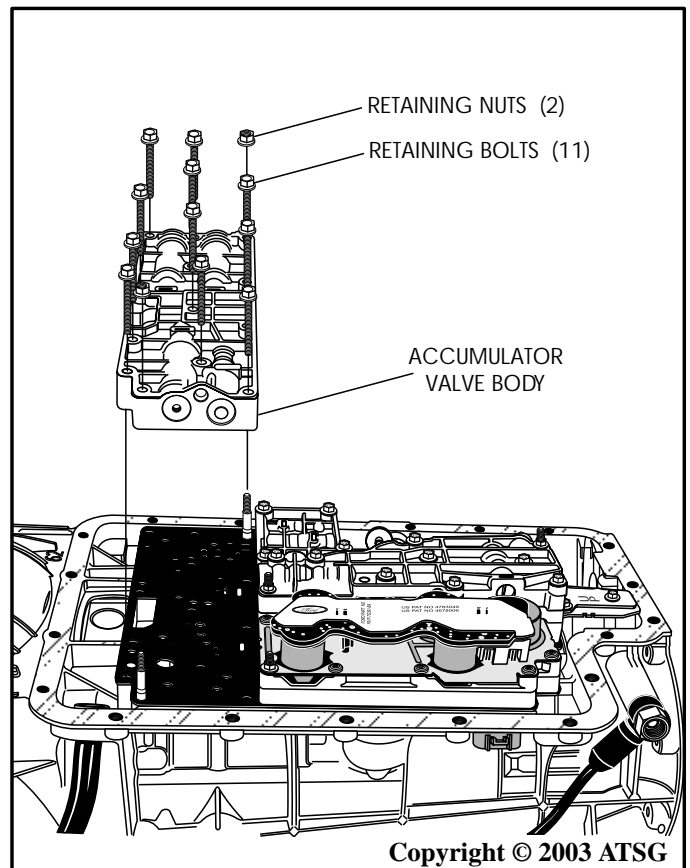

Figure 49
3. Remove two accumulator valve body retaining nuts and 11 bolts, as shown in Figure 49, and remove accumulator valve body.